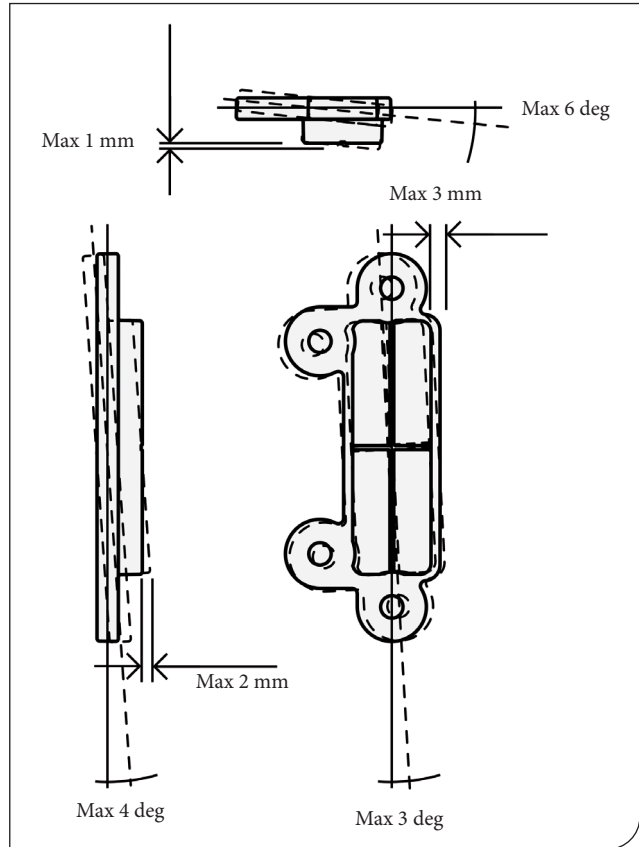

Fig. 25.
- Check that following magnet alignment requirements are not exceeded. See fig 25.